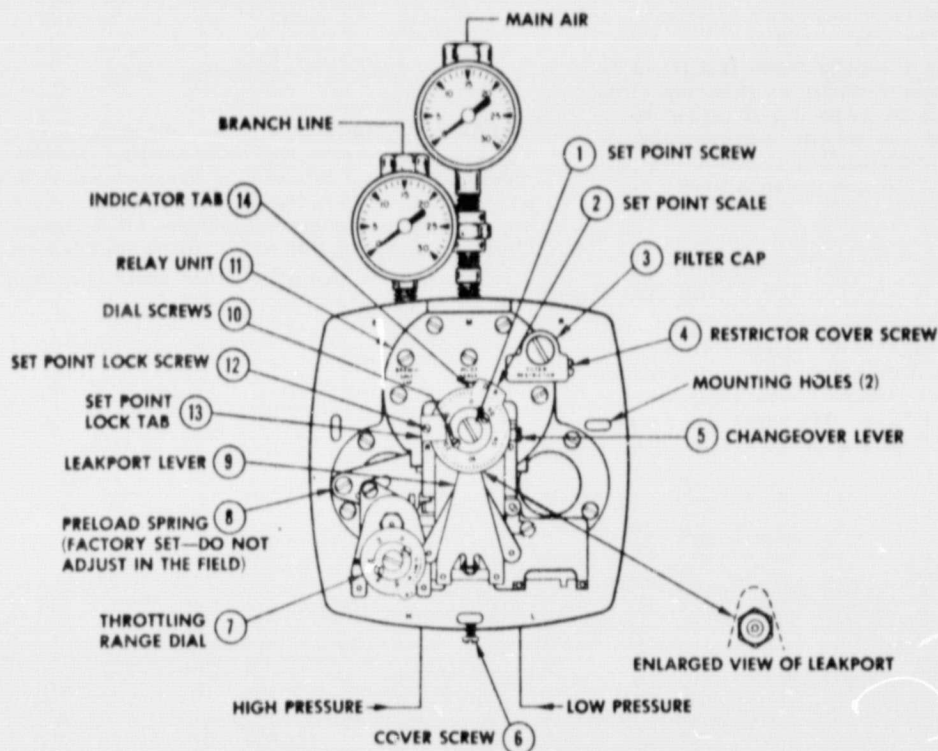

Figure 3 - PP2310 WITH COVER REMOVED
and gauge tee, as shown in Fig. 3, to provide the proper gauge clearance. Gauge tees MUST BE INSTALLED PRIOR to mounting the controller since clearance is not sufficient to permit installation AFTER mounting.
Using a screw driver in the Set Point Adjusting Screw (1), turn the Set Point Scale (2) to the desired control point setting. Insert the Set Point Lock Tab (13) into the slot provided on the Indicator Tab (14) and tighten the Set Point Lock Screw (12) to secure. Two slots are provided on Indicator Tab (14) in the event the tab on the Set Point Scale (2) falls at the point where Set Point Lock Tab (13) is shown in Fig. 3.
The unit should be inspected yearly to insure correct system operation, as follows (See Fig. 3):